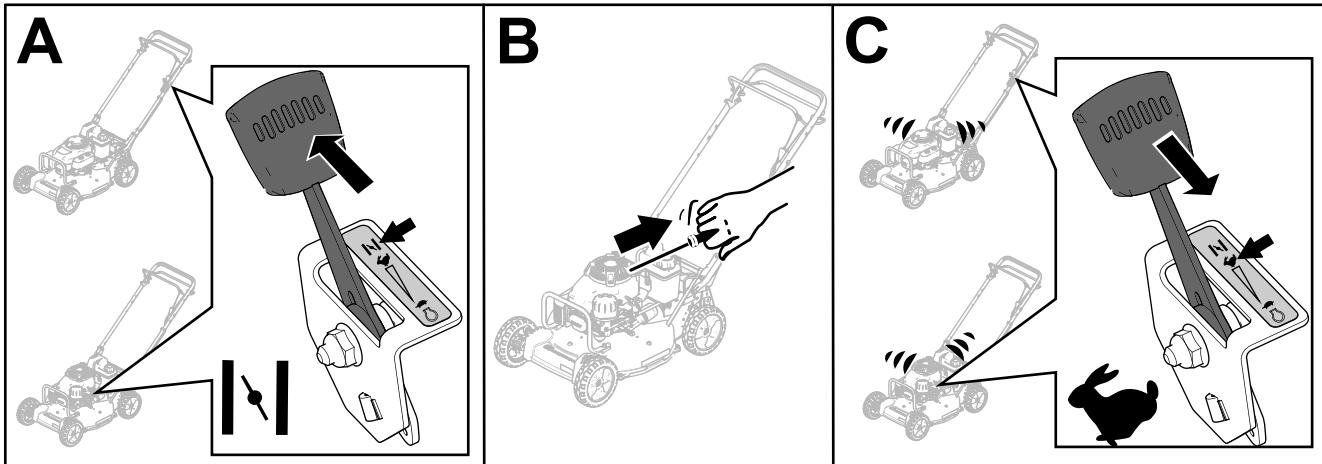

Figure 15
3. Move the throttle-control lever to the CHOKE position (A of Figure 15).
4. Pull the starter handle lightly until you feel resistance, then pull it sharply (B of Figure 15).
5. When the engine starts, move the throttle-control lever to the FAST position (C of Figure 15).